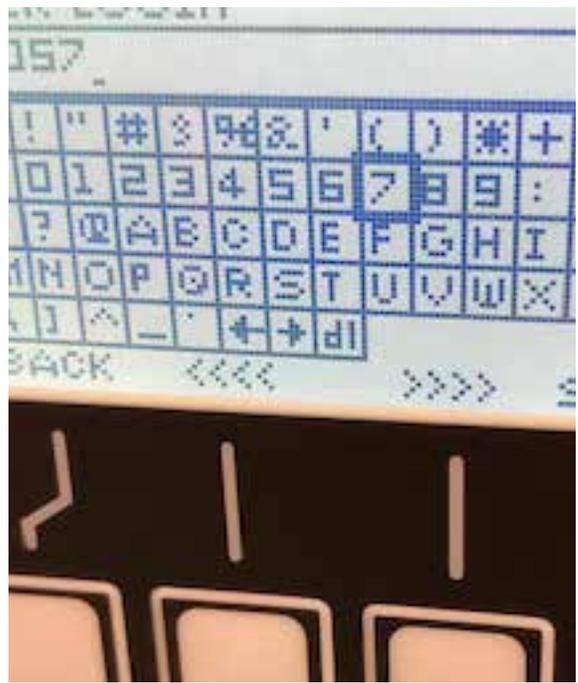

Figure 13. Login Number
7. Enter **LOGIN** number 75057 (Figure 13).